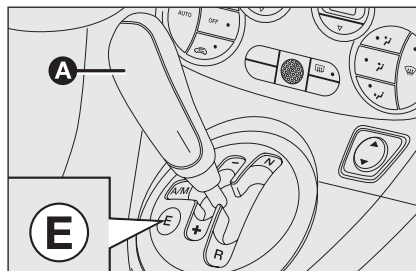

fig. 3 - versions 1.2
- ❑ the second fully automatic (**AUTO**), where the system decides when to shift gear. On 1.2 versions the **ECO** function (Economy) can be used with this mode reducing fuel consumption. To turn this function on, press button **E**-fig. 3 located on the gearbox trim.